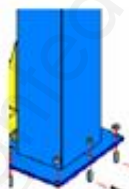

Fig. 4
2. After holes have been drilled, remove thoroughly the debris and dust in them and ascertain that the posts stay upon the circle previously drawn by chalk (**fig 4,5,6**).